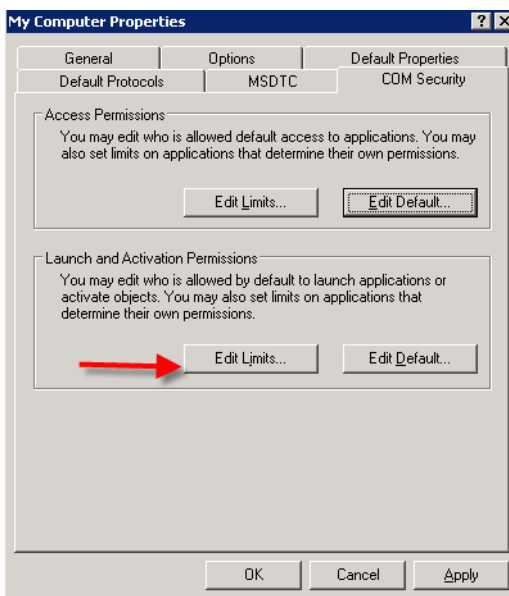

Figure 2-28 Com Security, Edit Limits
4. Select the **COM Security** tab, then the **Edit Limits** button under *Launch and Activation Permissions*, as shown below in figure 2-28.